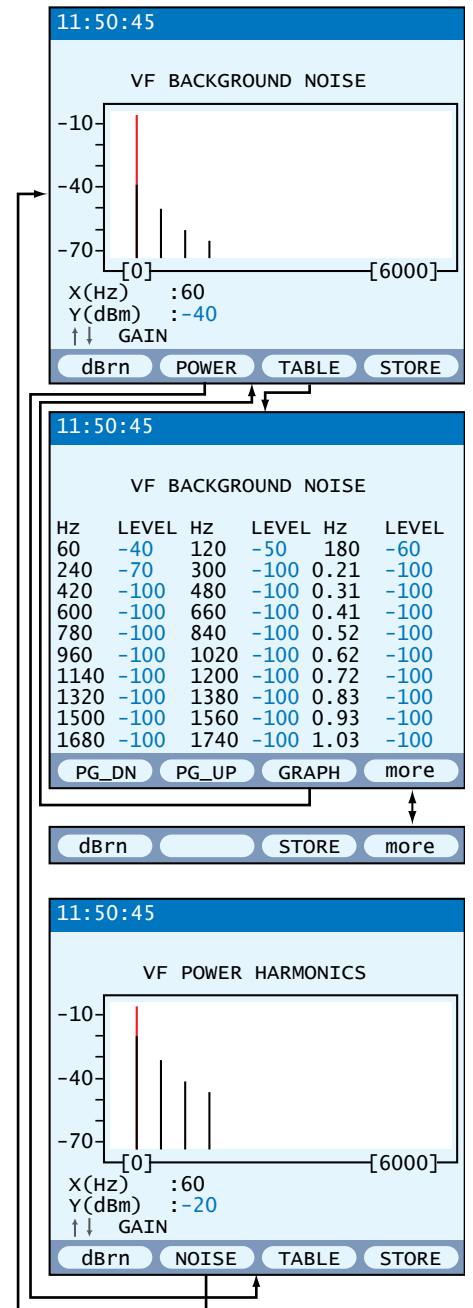

Figure 52 VF Measurement Screens
2. Select LINE > PSD BACKGROUND NOISE and in the setup screen, select VF 6000 Hz. Press ENTER and VF POWER HARMONICS (tip and ring to ground measurement) screen shown at the bottom of Figure 52 will be displayed in 60 Hz steps.
**POWER/NOISE** (F2): Toggles between the VF POWER HARMONICS screen shown at the bottom of Figure 52 or the VF BACKGROUND NOISE screen shown at the top of Figure 52.